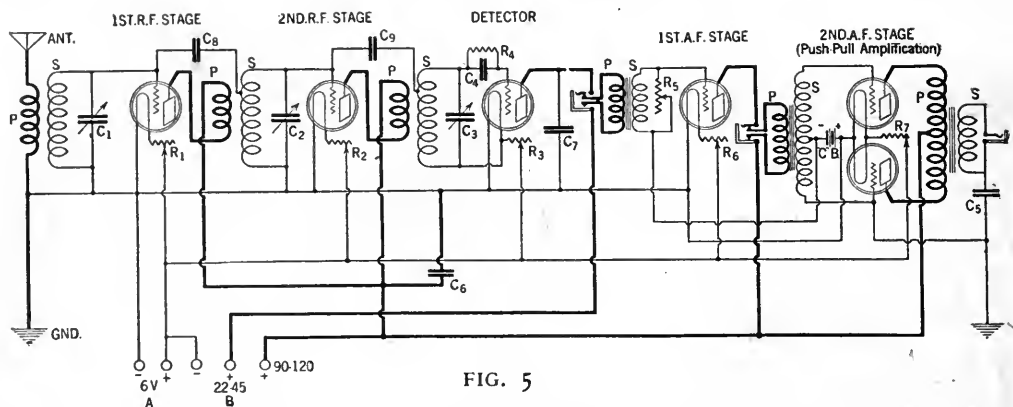

FIG. 5
**M**R. D. C. asks for a neutrodyne circuit employing a push-pull amplifier as the second audio stage. The complete circuit is shown in Fig. 5.